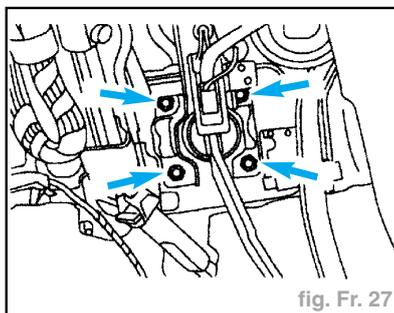

fig. Fr. 27
- Déposer le servo (fig. Fr. 27).